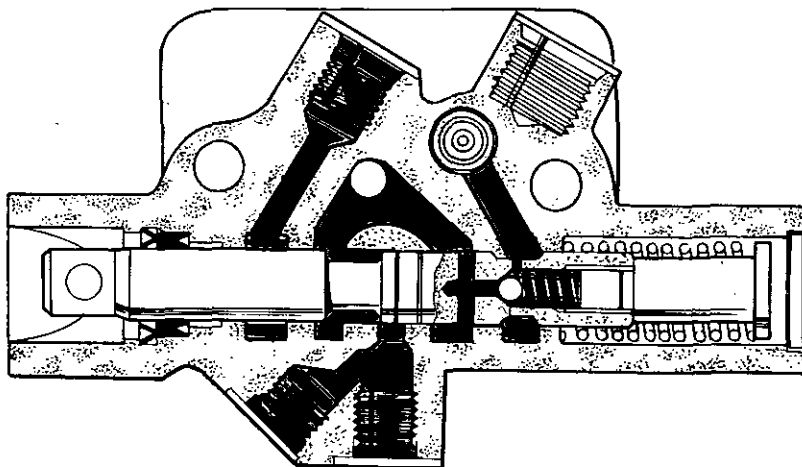

FIG. 33
Fig. 33. With the lever in EXT 1 (i.e. lever left) the oil flow is diverted by the spool (131) into the EXT 1 ports (128). The oil in the lift ram cylinder is "locked-in" by the spool. The lower links will be maintained in the fully raised position (i.e. Transport). EXT 2 port (134) is isolated. To prevent the lower links from dropping due to ram cylinder leakage (when EXT 1 is selected), a compensating valve, consisting of a ball (141) and spring (139) is incorporated between the EXT 1 port (128) and the ram cylinder port (L). When the ram cylinder pressure is less than in the EXT 1 port, the ball (141) will lift off its seat; oil will flow from the inlet port (K) through the cross drilling (M), past the ball and into the second cross drilling (N) to the lift ram chamber (L), thus maintaining ram cylinder pressure. When the pressure has equalised, the spring (139) will push the ball back on to its seat.